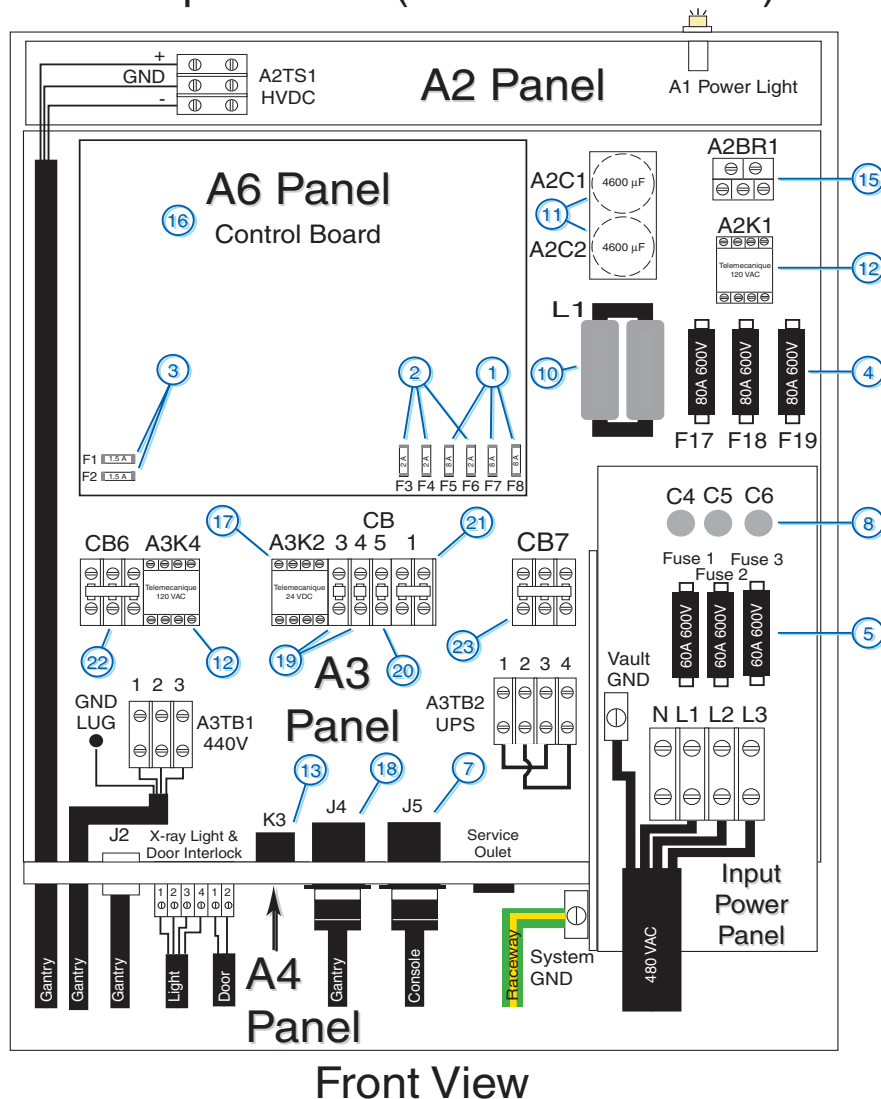
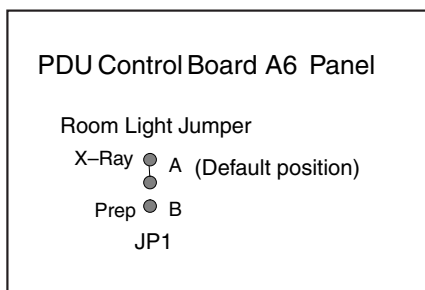

Figure 2-23 PDU Cable Connections - Front
Figure 2-32 X-ray Light Configuration
As seen in Figure 2-23, a number of cables must be installed throughout the PDU. Specific details on each connection can be found in the sub-sections that follow. Use Figure 2-23 for reference. The PDU has been designed to have cables routed into the PDU from its behind and/or from beneath it.
(See Figure 2-23.)
Connect the internally shielded HVDC cable to A2TS1 on the A2 panel. See Figure 2-23 for the location of the connector and Figure 2-28 for details. Observe polarities and grounds.
Connect the internally shielded 440V cable from the gantry to A3TB1 on the A3 panel. See Figure 2-23 for the location of the connector and Figure 2-28 for details. Observe the labels on the cable leads for proper identification and orientation.
Connect the ground wire (green with a yellow strip) from the Table/Gantry raceway ground bus to the system ground lug in the PDU. See Figure 2-23, on page 93, and Figure 2-31, below.
- 1.) Configure PDU control board for correct x-ray light operation. Determine whether the x-ray light should come on when high voltage is present or when x-ray is present. The board is shipped with the x-ray light turning "ON" when x-ray is present only. To change this, go to the PDU Control Board (see Figure 2-23, on page 93), and move the jumper from position "A" to position "B". See Figure 2-32. In the "B" position, the x-ray light illuminates whenever high voltage is present.